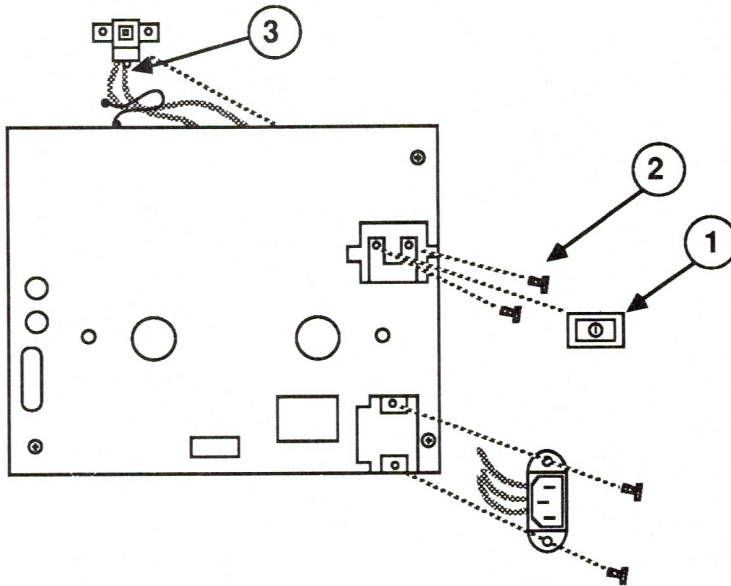

FIGURE 18
1. Pull the plastic knob off the power switch stem (Figure 18, #1).
2. Remove from the metal bracket the two screws that hold the switch (Figure 18, #2) .
3. Remove the two wires (Figure 18, #3) from the plastic cable clamp and desolder the wires from the switch.
1. Solder the two wires to the switch (Figure 18, #3).
3. Replace the two screws (Figure 18, #2).
4. Push the button on the switch stem (Figure 18, #1).